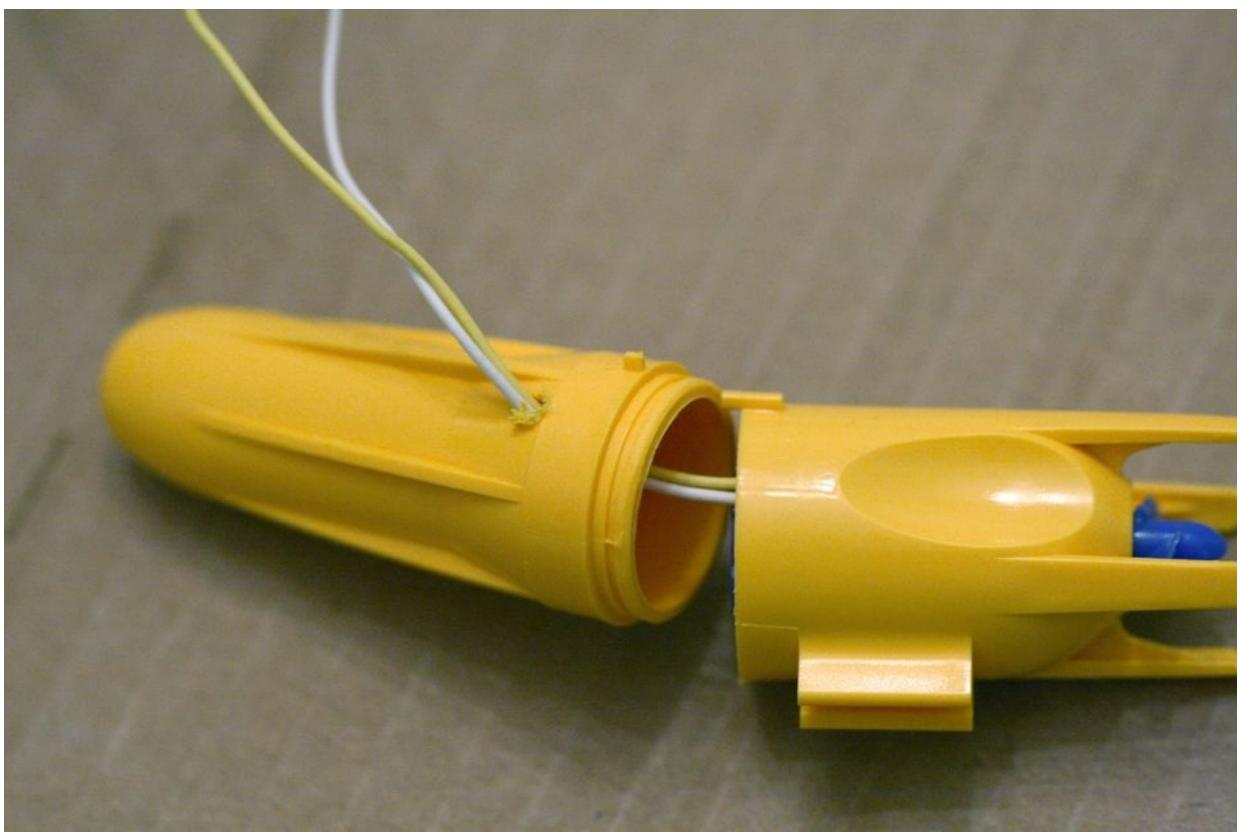

Figure 3-13. Tamiya pod after wiring modifications
3. Once the hole is large enough for the wires to fit, thread the wires through one at a time, from the inside of the motor pod. See Figure 3-13.